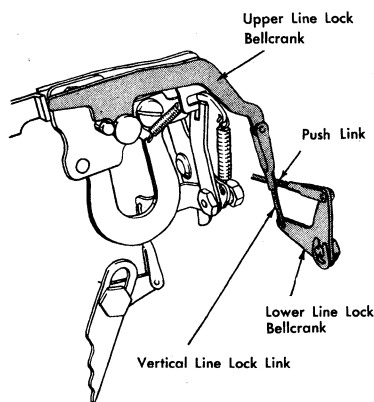

Figure 40. Line Lock Adjustment
1. Adjust the vertical link from the line lock lever so that the bellcrank is at a right angle to the link when fully actuated (Figure 40).